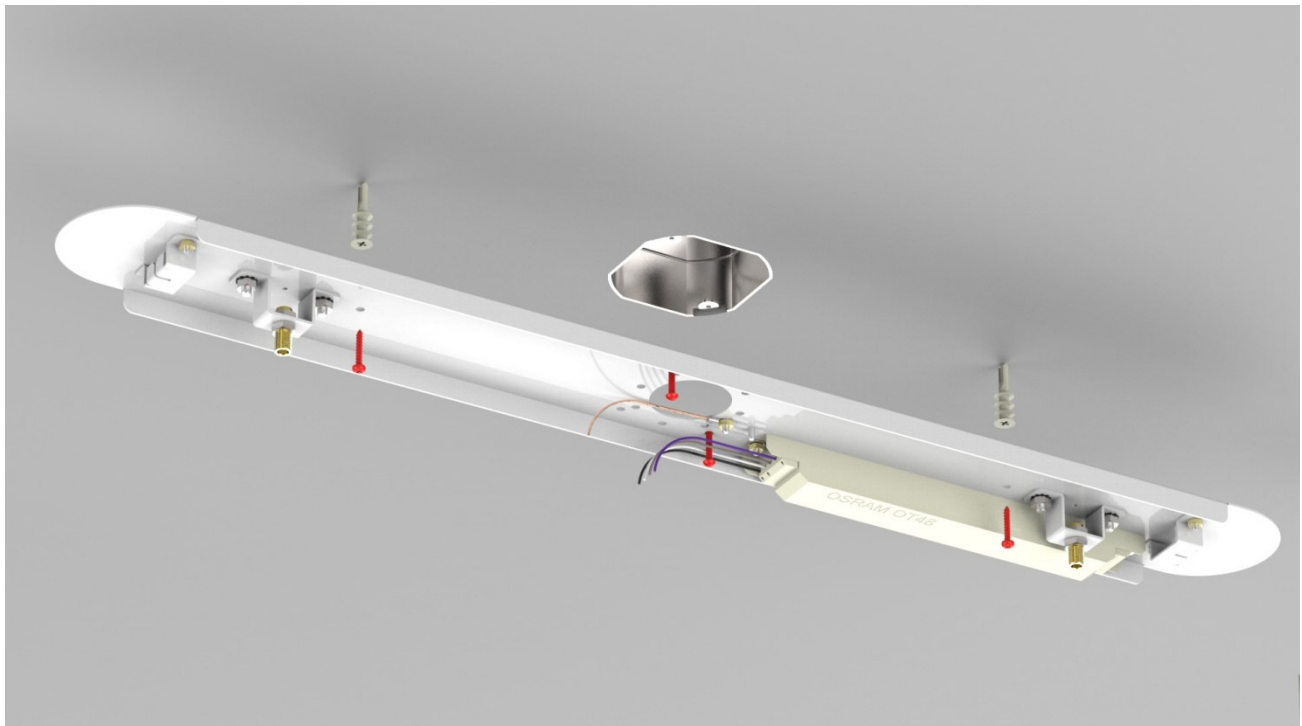

Figure 1
- Install mounting plate onto ceiling electrical box with screws provided (shown red). (Figure 1)